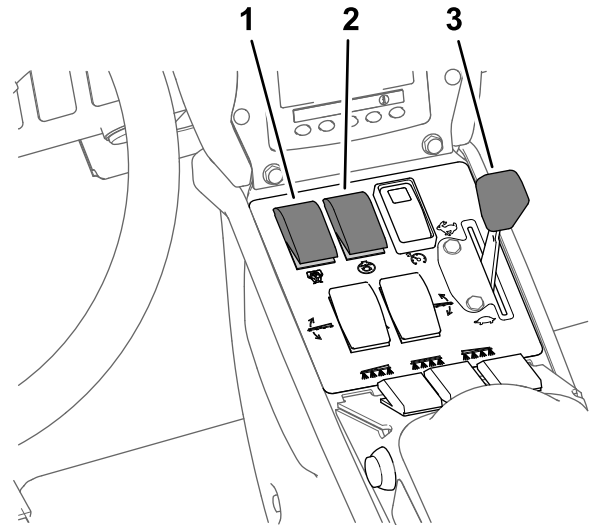

Figure 37
8. Set the agitation switch and the spray-pump switch to the ON position (Figure 37).
9. Set the throttle to the FAST position (Figure 37).
Note: This procedure assumes that the spray pump is on; refer to Figure 37 in Spraying in the Application Rate Mode \(page 34\).
4. Adjust the throttle to the desired engine speed to spray; refer to Figure 37 in Spraying in the Application Rate Mode \(page 34\).